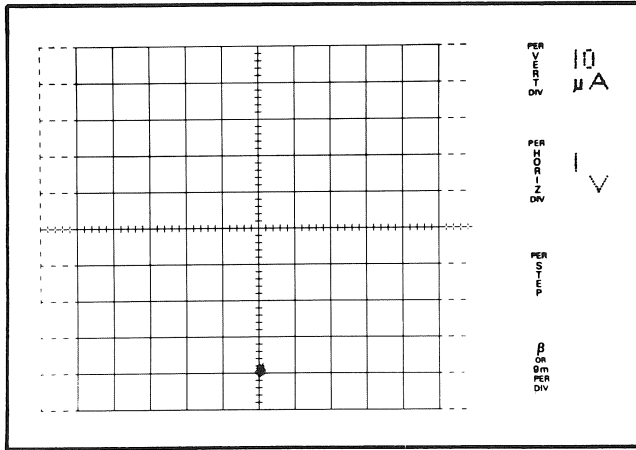

Fig. 2-9. Test 11,  $BV_{EBO}$ .
13. ADVANCE the 172 to Test 11,  $BV_{EBO}$ . This test calls for  $10 \mu A$  drive and a  $BV_{EBO}$  of at least 4.5 V. See Fig. 2-9.